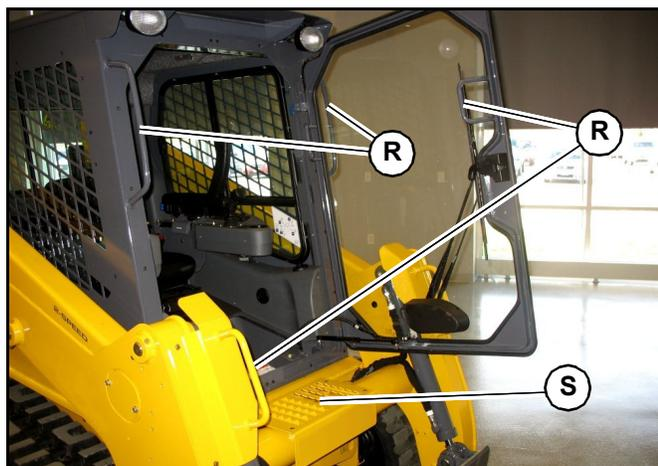

Fig. 42 – Cab Entry/Exit Handles/Steps
Use only step (S, Fig. 42) and handles (R) on the machine when entering/exiting the cab. Keep the steps and the handles clean to ensure a secure hold at all times. Never use the control joysticks as hand holds. Remove dirt (oil, grease, earth, snow and ice) from handles (R), steps (S) and your shoes before entering the cab.